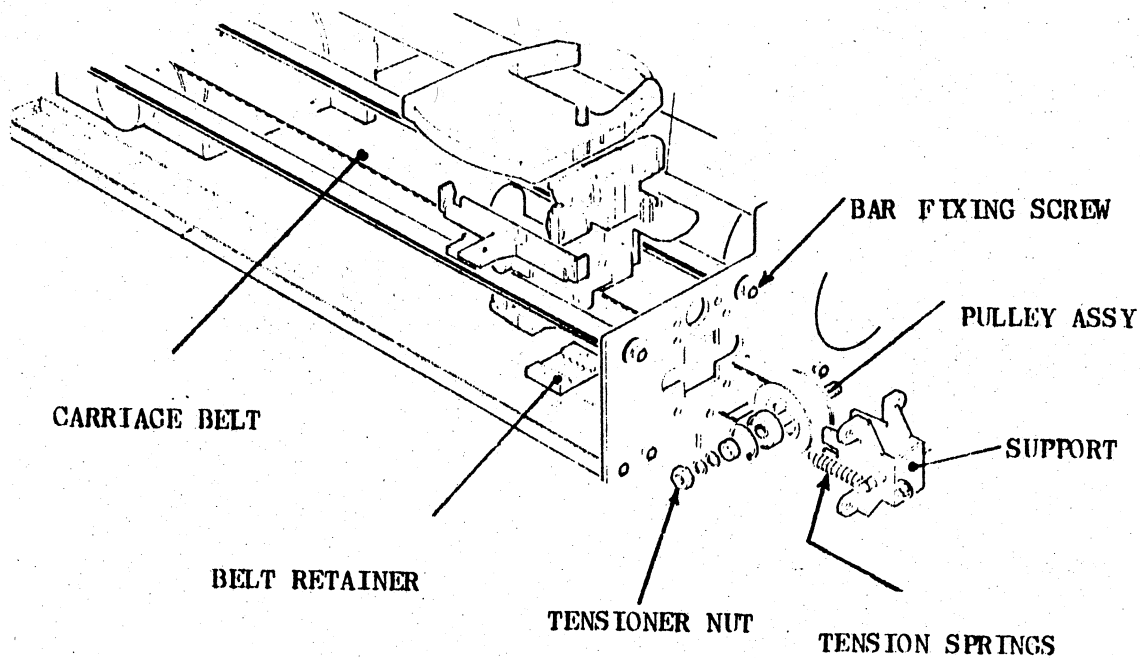

Fig. 8.20
- . Loosen the tensioner nut of the right pulley support. See fig 8.20.
- . Remove the allen screw fixing the internal bar to the right side. See fig. 8.20